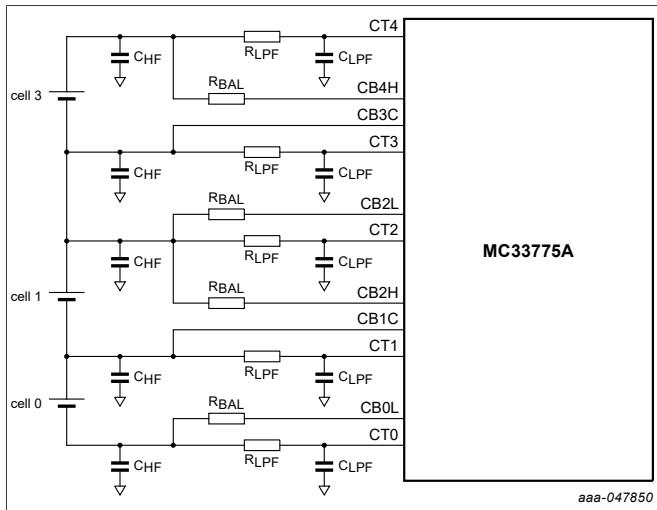
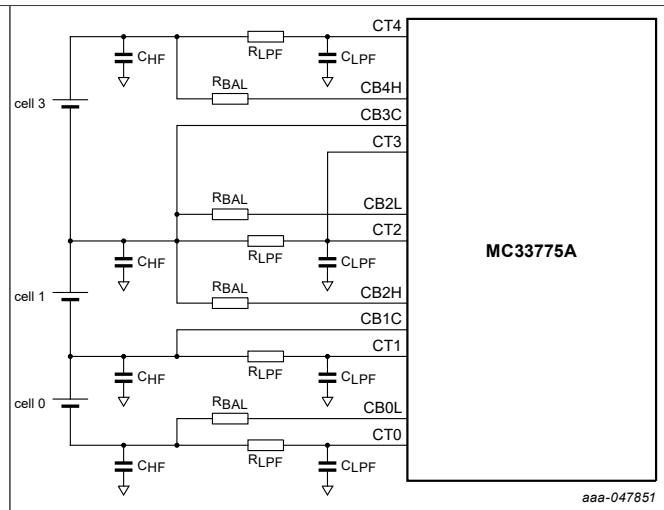

Figure 1. Full population
Figure 2. Reduced population
Figure 1 shows a connection option for skipping cell 2 while keeping all components populated. The not connected input has no influence on the other inputs. Since no components are removed, there is no BOM cost saving compared to a fully utilized application.
A different option is shown in Figure 2. Here the input filter connected to CT3 and one of the C_{HF} capacitors is removed. As leakage currents from CT2 and CT3 are now accumulating, there is a small influence on accuracy of the measurement. If the recommendations in the data sheet are followed, and only one cell is skipped at a time, the impact on accuracy is limited. If two or more cells are skipped, it is recommended to skip only the low-pass filters (LPFs) that are not used by any measurement. Section 5.2 shows an example for such a configuration.
- **System cost:** Some connection options use more, other fewer components. The number of components has an impact to the system cost. The full population option shown in Figure 1 has higher BOM costs than the option with reduced population (Figure 2). However, reusability of the full population option may be higher.